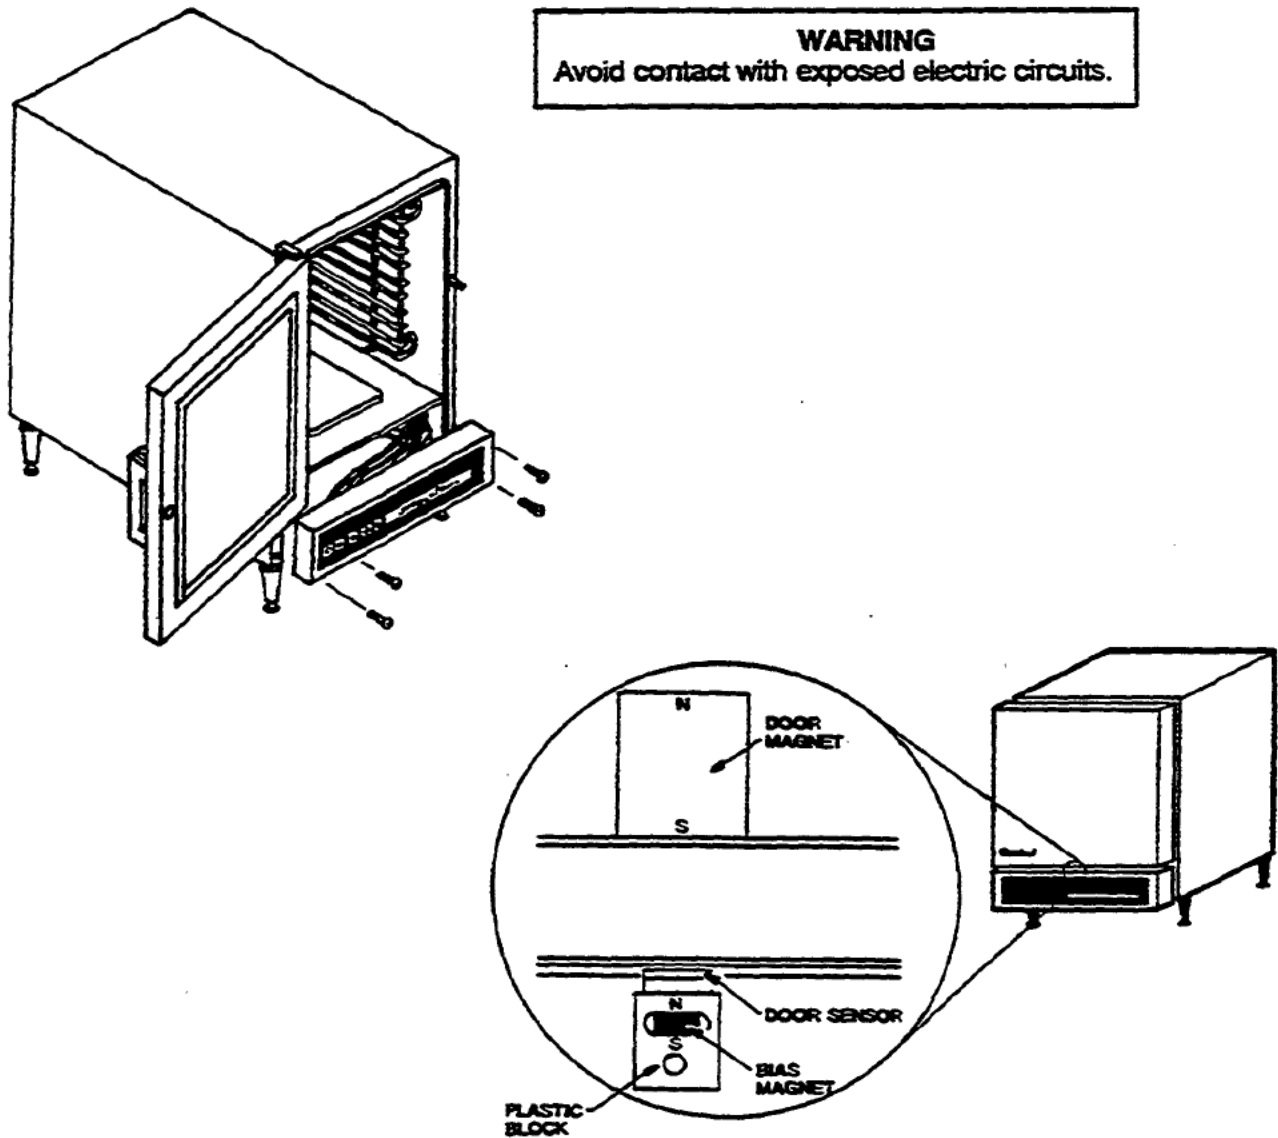

Figure 2-23. Control Panel Removal
- c. Refer to figure 2-23, and remove the mounting screws. Save the screws. Place the panel upright at the base of the steamer.
- d. Set a magnet over the door switch as shown in figure 2-23.
- a. Aline the positioning stud as shown in figure 2-23.
5. Set a magnet over the door switch as shown in figure 2-23. The condenser, fan and heaters turn on.